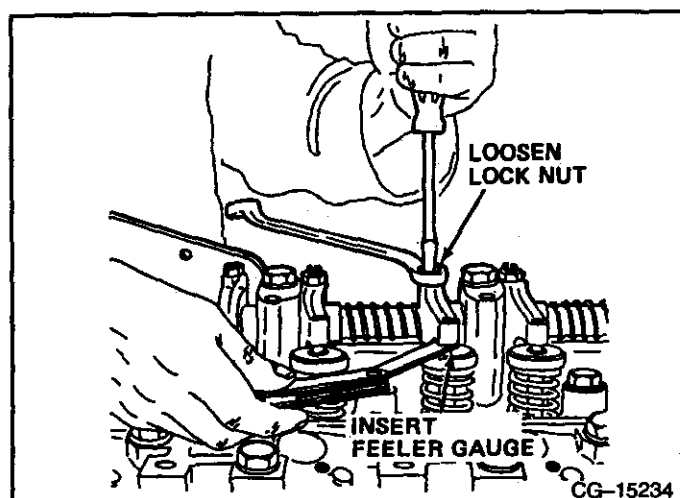

FIGURE 7-62
- b. Set valve lash by loosening the lock nut and turning the valve adjustment screw with the appropriate size feeler gauge inserted between the rocker arm and valve stem tip. Tighten the valve adjustment screw until the valve lever can support the feeler gauge. Refer to **FIGURE 7-62** and "Specifications" for valve lash.